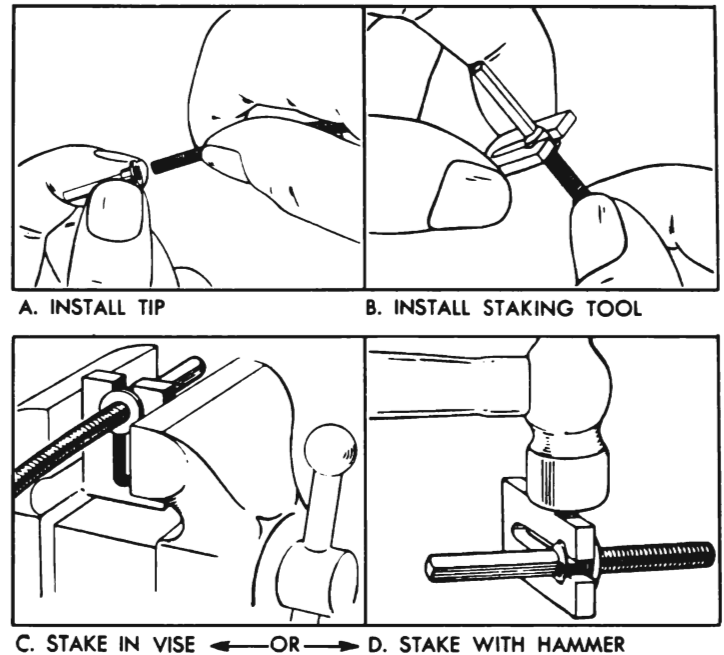

Figure 10-86—Installation of Speedometer Cable Tip
2. Fit the correct shape new tip to the cut end of cable, then insert cable and tip between the jaws of staking tool. See figure 10-86, views A and B.
3. Squeeze staking tool edgewise in a vise, or strike the upper edge of staking tool one or two sharp blows with a hammer. See figure 10-86, view C or D. Either method will fasten tip and cable together permanently.